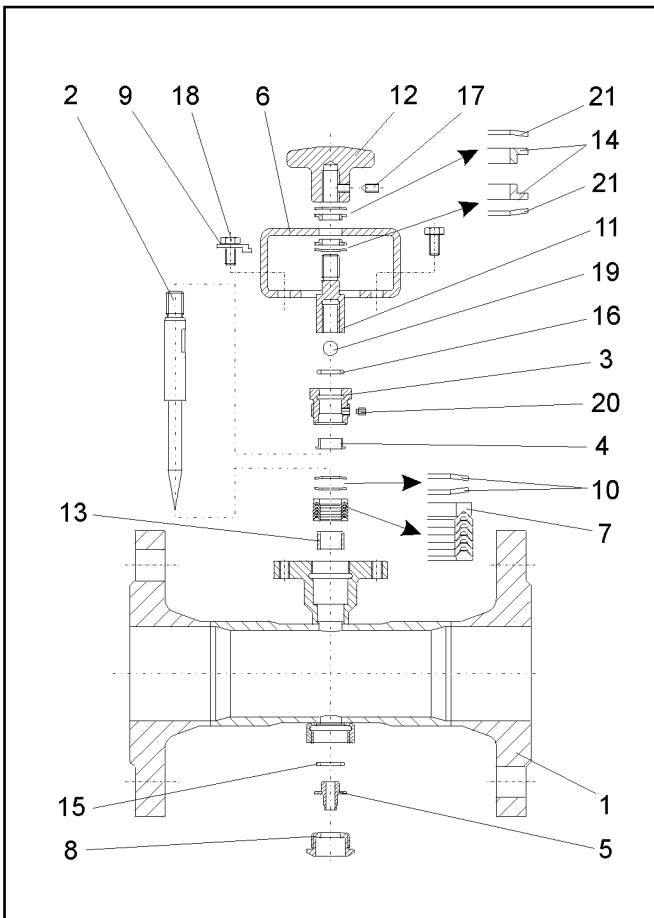

Fig. 3 - Explosion drawing of the sampling valve series 27f
Fit the bearing bush (14) in the inside and outside of the Yoke (6). Place the spring washers (21) on the threaded guide (11). Afterwards, insert the threaded guide through the bearing bush. Another spring washer (21) is then placed on the threaded guide. The location of the spring washer can be taken from the explosion drawing (Fig. 3). Screw the handle (12) tightly onto the threaded guide (11). After this, bore a 4,2mm hole x 10mm through the shaft of the handle into the threaded guide. Tap a M5 thread in the bore. Then with the locking screw (17) tighten the handle and the threaded guide together.
For exact the positioning, and locating of the V-ring packing, and the spring washers, refer to the explosion drawing (Fig. 3).